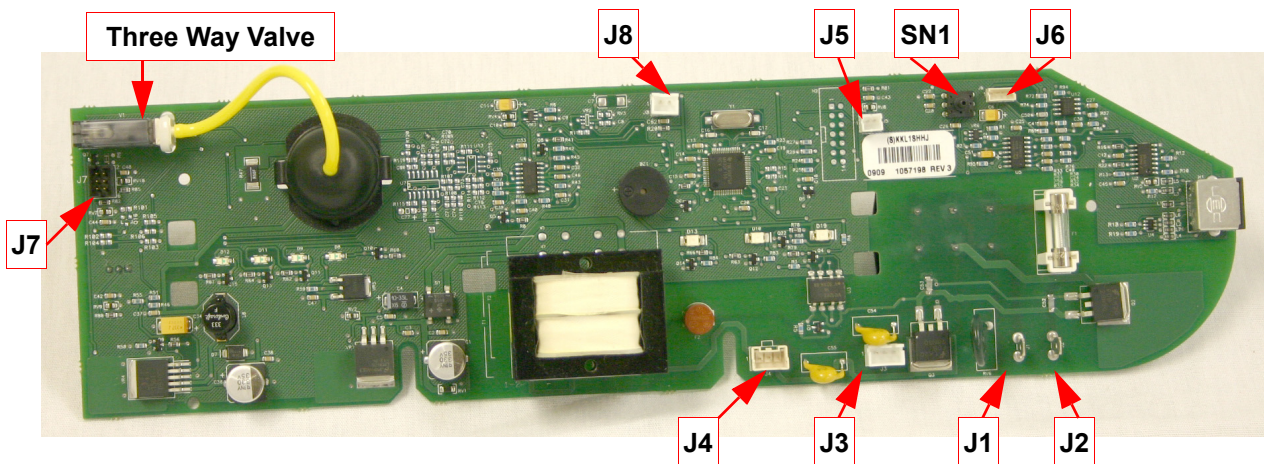

FIGURE 8-12 MAIN PCA
2. Remove the Ribbon from location J7 on the Main PCA. Refer to Figure 8-12 for Main PCA details.
8. Connect the Switch Cable (black) to location J5 on the Main PCA. Refer to Figure 8-12 for Main PCA details.
3. Connect the yellow tubing to location SN1 on the Main PCA. Refer to Figure 8-12 for Main PCA details.
2. Connect the Fan to location J3 on the Main PCA. Refer to Figure 8-12 for Main PCA details.
3. Connect the Fan Switch Cable to location J8 on the Main PCA. Refer to Figure 8-12 for Main PCA details.
5. Install the following electrical connections J7, J8, J5, J6, J2, J1, J3, J4. Refer to Figure 8-12 for Main PCA details.